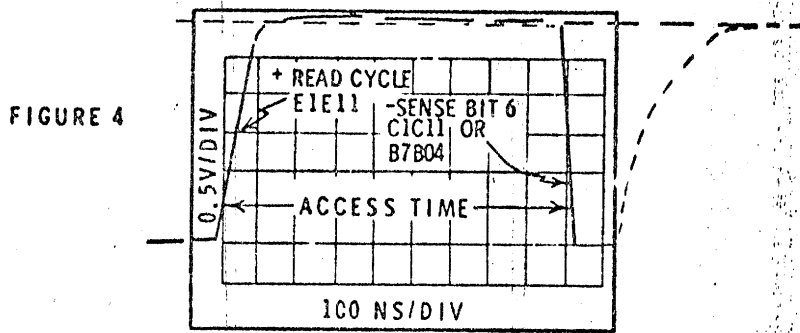

FIGURE 4
6. MEASURE THE INTERVAL BETWEEN THE RISE OF "+ READ CYCLE" (E1E11) AND THE FALL OF "-SENSE BIT 6" (C1C11 OR B7B04) AT THE 0.5V LEVEL WITH RESPECT TO BASELINES. SEE FIGURE 4. RECORD THIS INTERVAL AS "ACCESS TIME" ON THE LABEL.